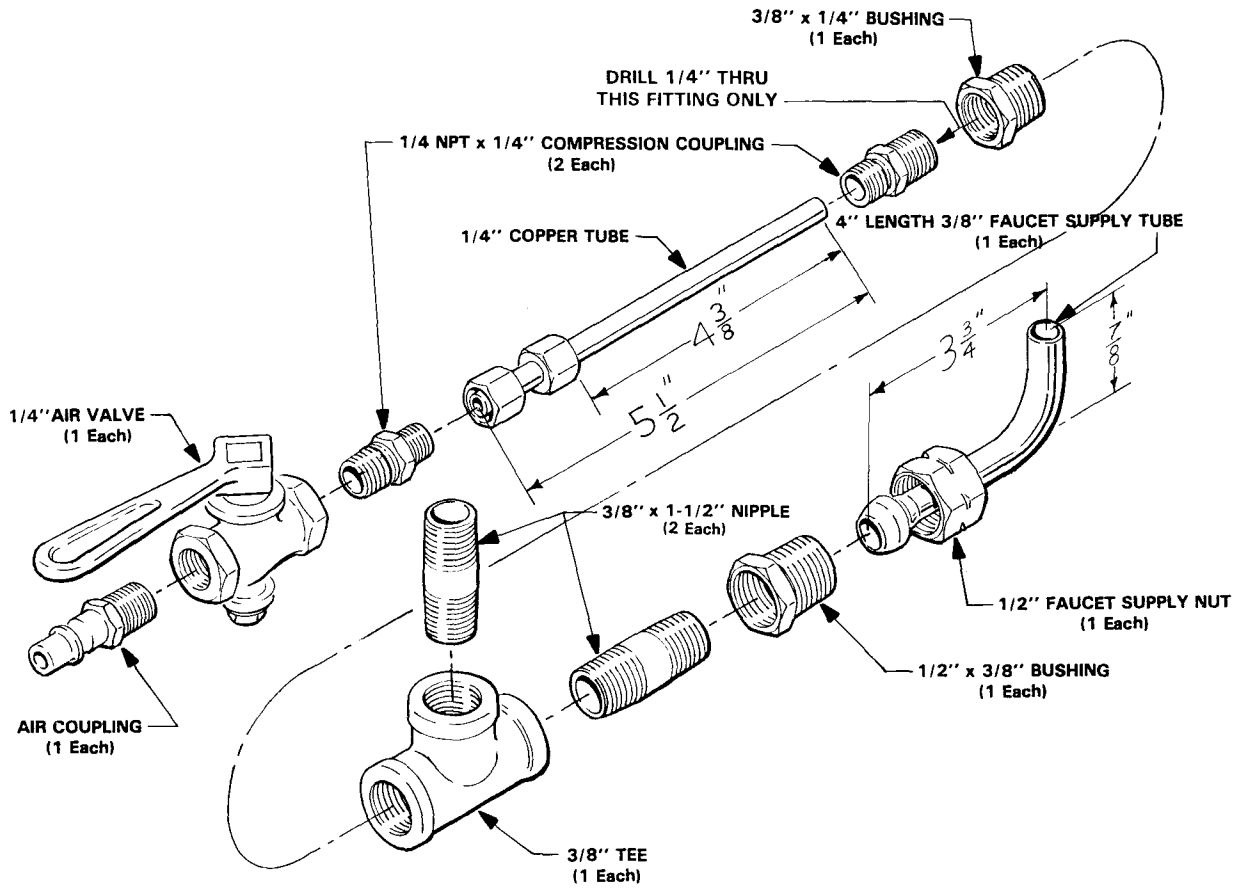
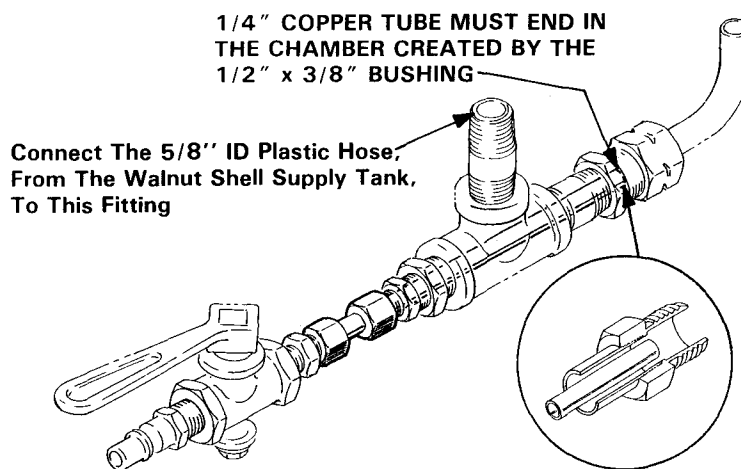

Figure 1. Individual Components Required to Build Suggested Blasting Gun
Figure 2. View of Assembled Blast Nozzle
Parts illustrated in Figure 1 of this instruction will enable you to assemble a suitable blasting gun. These parts are available in most hardware or plumbing supply stores.
5. Slide tube through coupling and extend approximately 4-3/8" past the end of the inner coupling nut. See Figure 1. The tube should end in the chamber of the 1/2 x 3/8" bushing. See Figure 2.
6. Using Figure 1 and 2 as a guide, finish assembling the blast gun.
7. The 3/8" faucet supply tube comes in various lengths. We recommend bending the tube as shown in Figure 1 prior to cutting it to length.
If you decide to make a gun of your own design, please take note that the 1/4" air tube must extend into a larger area such as the 1/2" x 3/8" bushing as the walnut shells must pass out the nozzle around the tube and that this larger area creates a suction effect. See Figure 2.